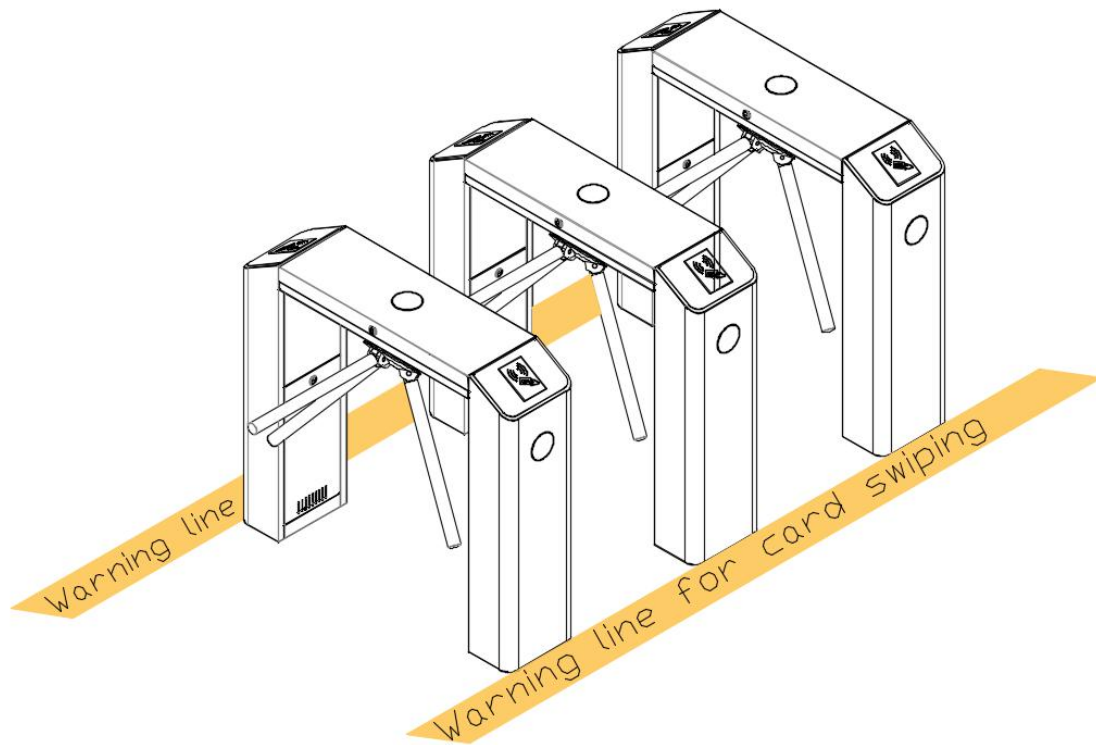

Figure 3-2
3. Setting a warning line for card swiping (see Figure 3-2). A warning line is suggested to prompt users to swipe cards in a distance, which would greatly reduce the probability of equipment failure caused by improper operations.